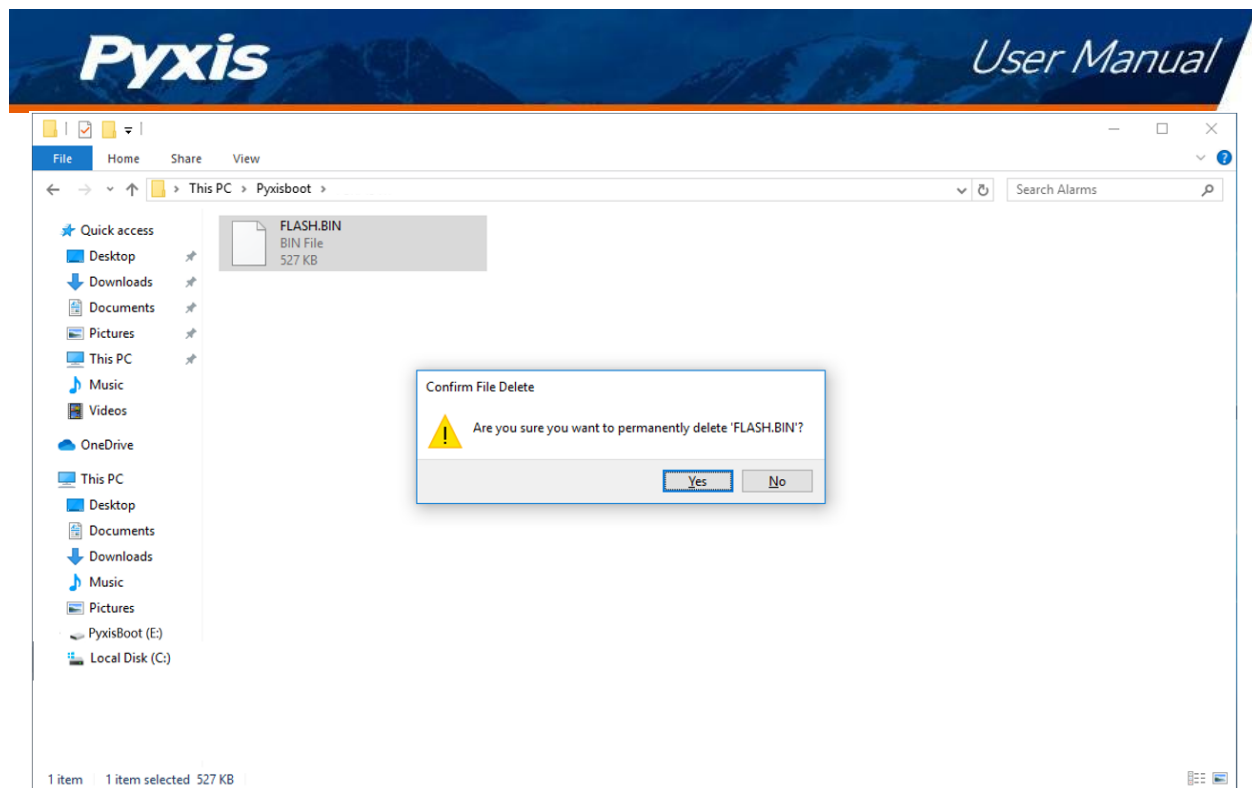
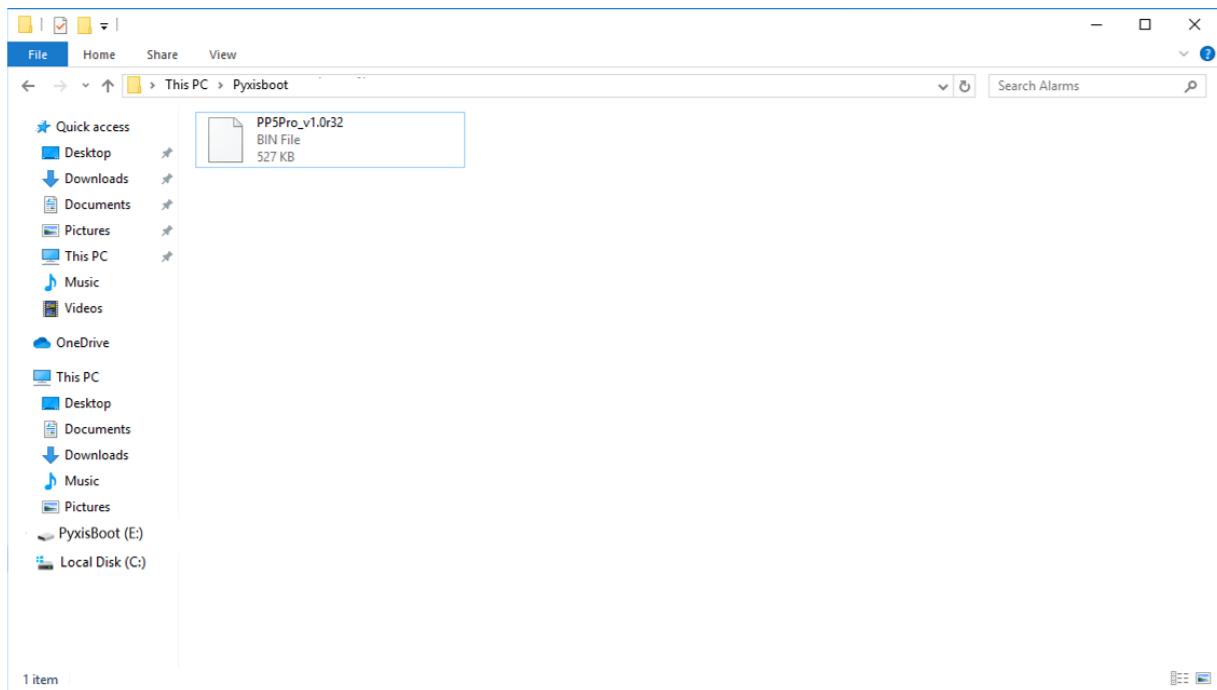

Figure 20.
Figure 21.
5. Delete the old files inside the "PyxisBoot" drive and copy the target firmware file (file format: **POWERPACK PRO-5PRO_FirmwareVersion.bin**) to the "PyxisBoot", as shown in figure 20 and figure 21.
2. Navigate to **Sensor Configuration Screen** and select **Set Address**, as shown in **figure 20**.